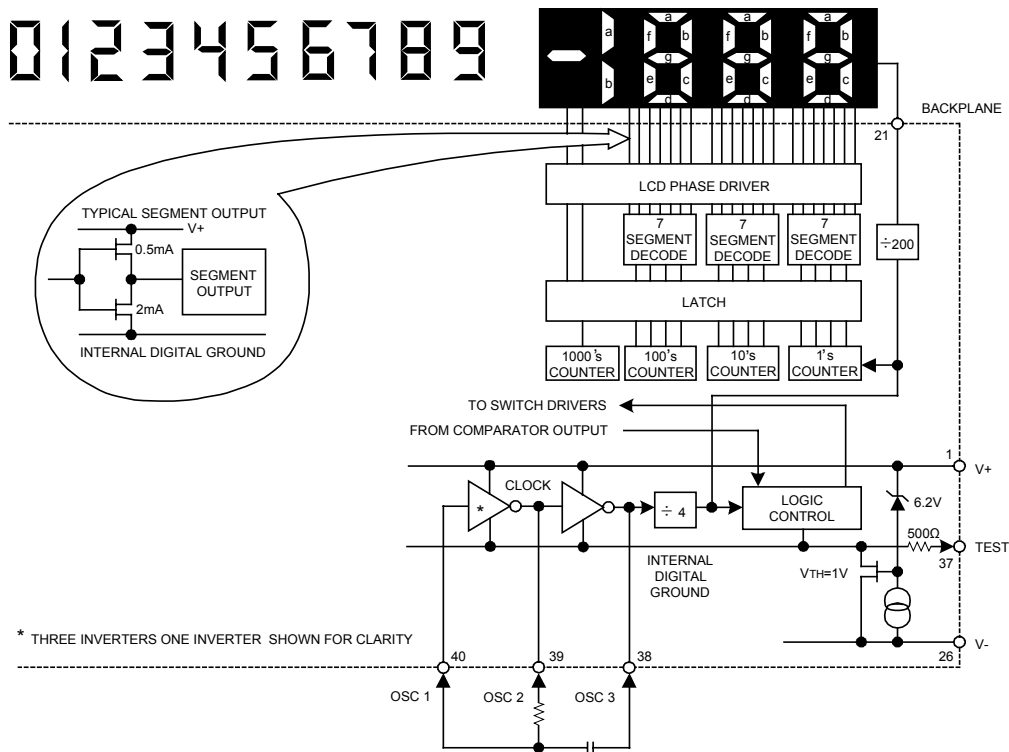

FIGURE 5. DIGITAL SECTION
Figure 5 show the digital section for the UTC 7106, respectively. In the UTC 7106, an internal digital ground is generated from a 6V Zener diode and a large P-Channel source follower. This supply is made stiff to absorb the relative large capacitive currents when the back plane(BP) voltage is switched. The BP frequency is the clock frequency divided by 800. For three readings/sec, this is a 60Hz square wave with a nominal amplitude of 5V. The